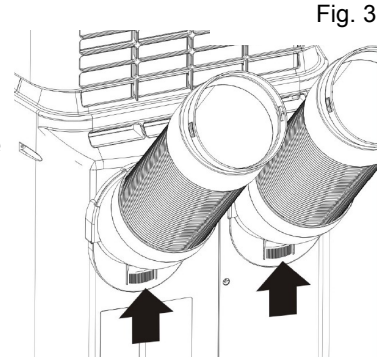

Fig. 3
4. Fix one end of the intake and exhaust connectors onto the rear outlet of the unit by sliding the connectors into each slot. (Fig. 3)